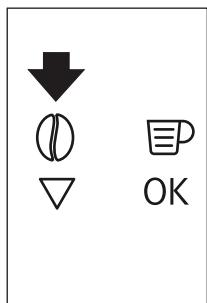

Fig. 15
- ▶ After using the machine with pre-ground coffee, to go back to making coffee using beans, deactivate the pre-ground coffee function by pressing the Ø icon (B4) (Fig. 15).